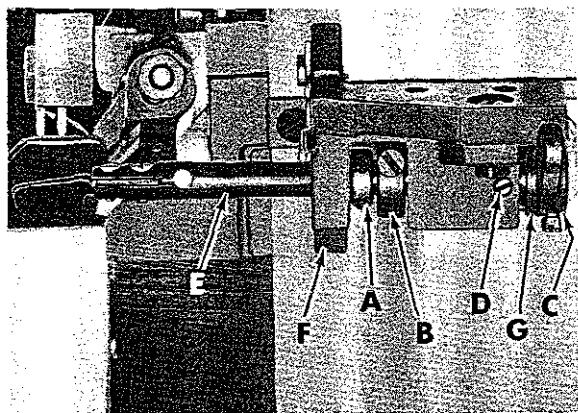

Fig. 19
To center shirring blade (C) over differential feed dog, loosen screws in collar (A, Fig. 19), actuating collar (B), operating lever (C) and loosen tension screw (D). Move shaft (E) to the left or right as required to center shirring blade over differential feed dog. While holding blade in position, thrust both collars (A and B) against shaft bracket (F) to eliminate any end play in the shirring blade shaft, then tighten screws in collars (A and B). With the shirring blade properly adjusted and in position, set operating lever (C) in the slot of the shaft bracket and tighten its screw.